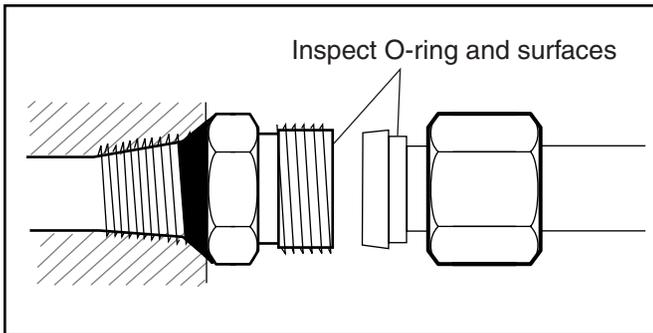

Figure 5.4 *Inspect/ Align Fittings*
1. Inspect sealing surfaces and O-ring groove for damage or foreign material. See Figure 5.4.